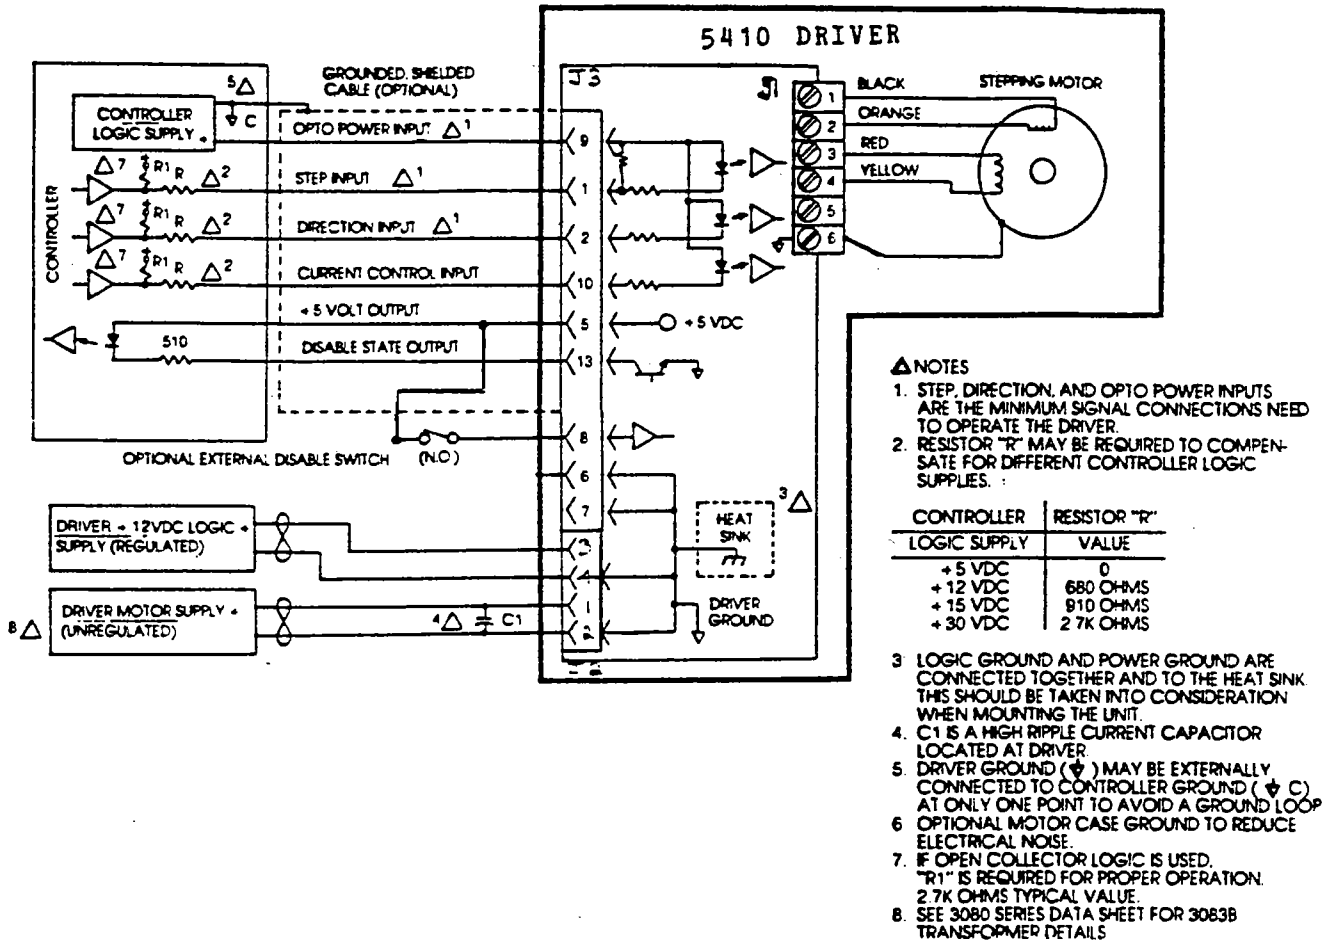

FIGURE 6
6. Optical Coupler Power Input (J3-9). This input requires a separate 5 to 30 Vdc at 40 mA maximum to power the optoisolators within the drive module. Voltages higher than 5 Vdc require an additional resistance in the input logic lines (refer to Figure 6).